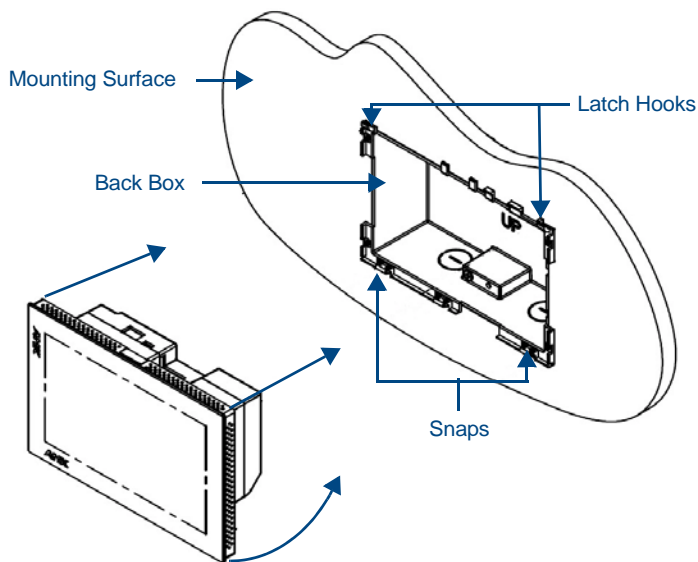

FIG. 20 Installing the MXD-700
12. Latch the panel onto the top hooks on the back box and push it down (Landscape) onto the bottom snaps or on the left side and push it to the right (Portrait) (FIG. 20). Press gently but firmly on the ends until the snaps “click” to lock it down.